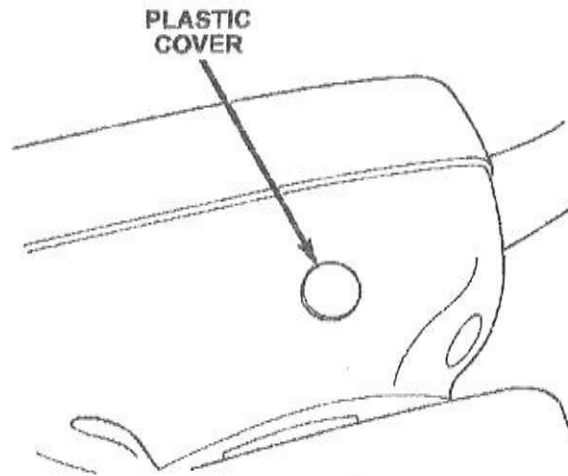

Figure 10
- Using a small screwdriver, remove the plastic cover plug from the top outer surface of the steering wheel hub (Figure 10). Exit the vehicle.